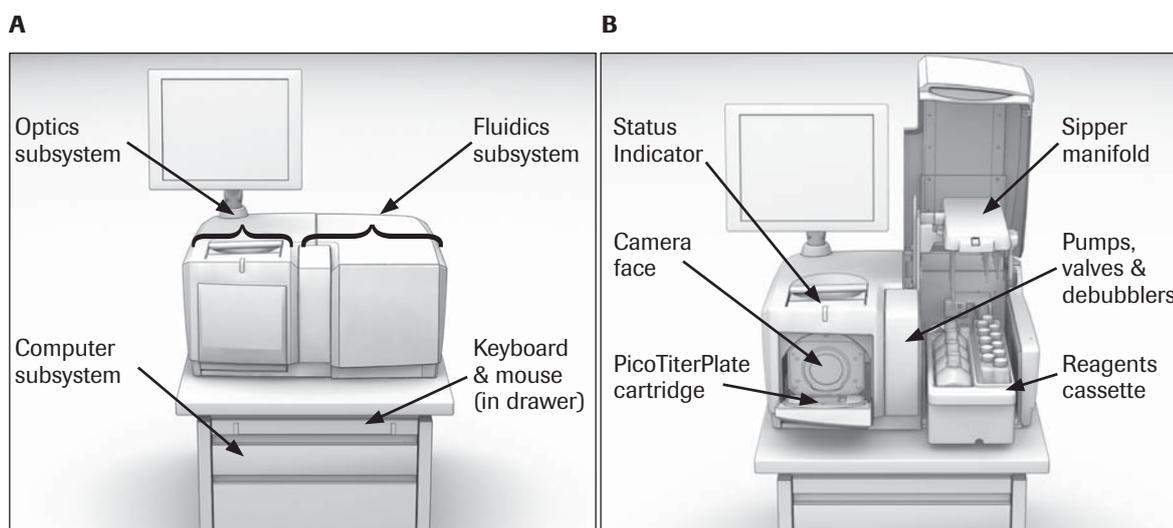

Figure 1–2: Main components of the Genome Sequencer FLX Instrument
The main components of the Genome Sequencer FLX Instrument are an optics subsystem and a fluidics subsystem which occupy the left- and right-hand sides of the instrument, respectively. Both systems are controlled by a computer subsystem, which is located in the cart (Figure 1–2).
- ▶ The **fluidics subsystem** moves the sequencing reagents across the wells of a PicoTiterPlate device (PTP device), and then moves spent reagents from the PTP device to the waste receptacle. The fluidics subsystem includes a Reagents cassette, which holds the reagent containers and doubles as a waste container; a reagent sipper tube assembly and reagent tubing; a 16-position valve manifold; 2 main peristaltic pumps; 2 debubblers with secondary “purging” pumps; a heated PTP cartridge holder (in the camera door); and effluent tubing leading to the waste container (Figure 1–2B).